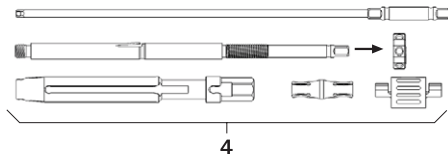

Fig. 2
- Disassembling reduction lever 4, see Fig. 2. Fully disassemble reduction lever and unscrew lock nut.